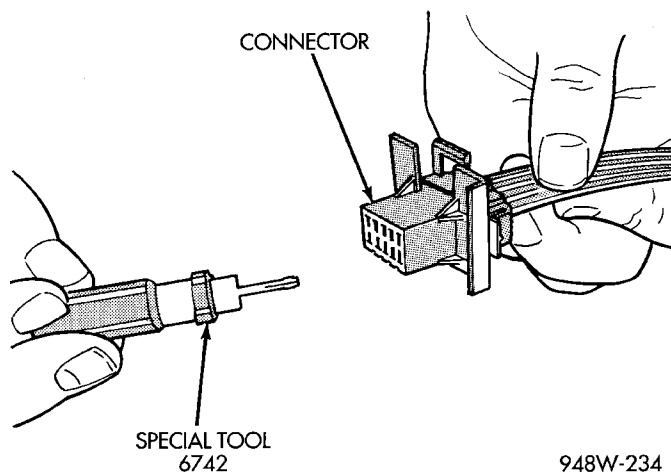

Fig. 14 Molex Connector Repair
(1) Disconnect battery.
(2) Disconnect the connector from its mating half/component.
(3) Insert the terminal releasing special tool 6742 into the terminal end of the connector (Fig. 14).